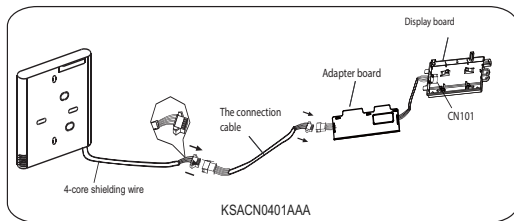

Fig. 3 — Installation of KSACN0401AAA for High Wall Indoor Models
2. Connect the female joint of the wires group from the adapter board with the male joint of the connective wires group. Next, connect the other side of the adapter board with the display board (see Fig. 3).
3. Connect the other side of the connective wires group with the male joint of the wires group leads from the wire controller (see Fig. 3).